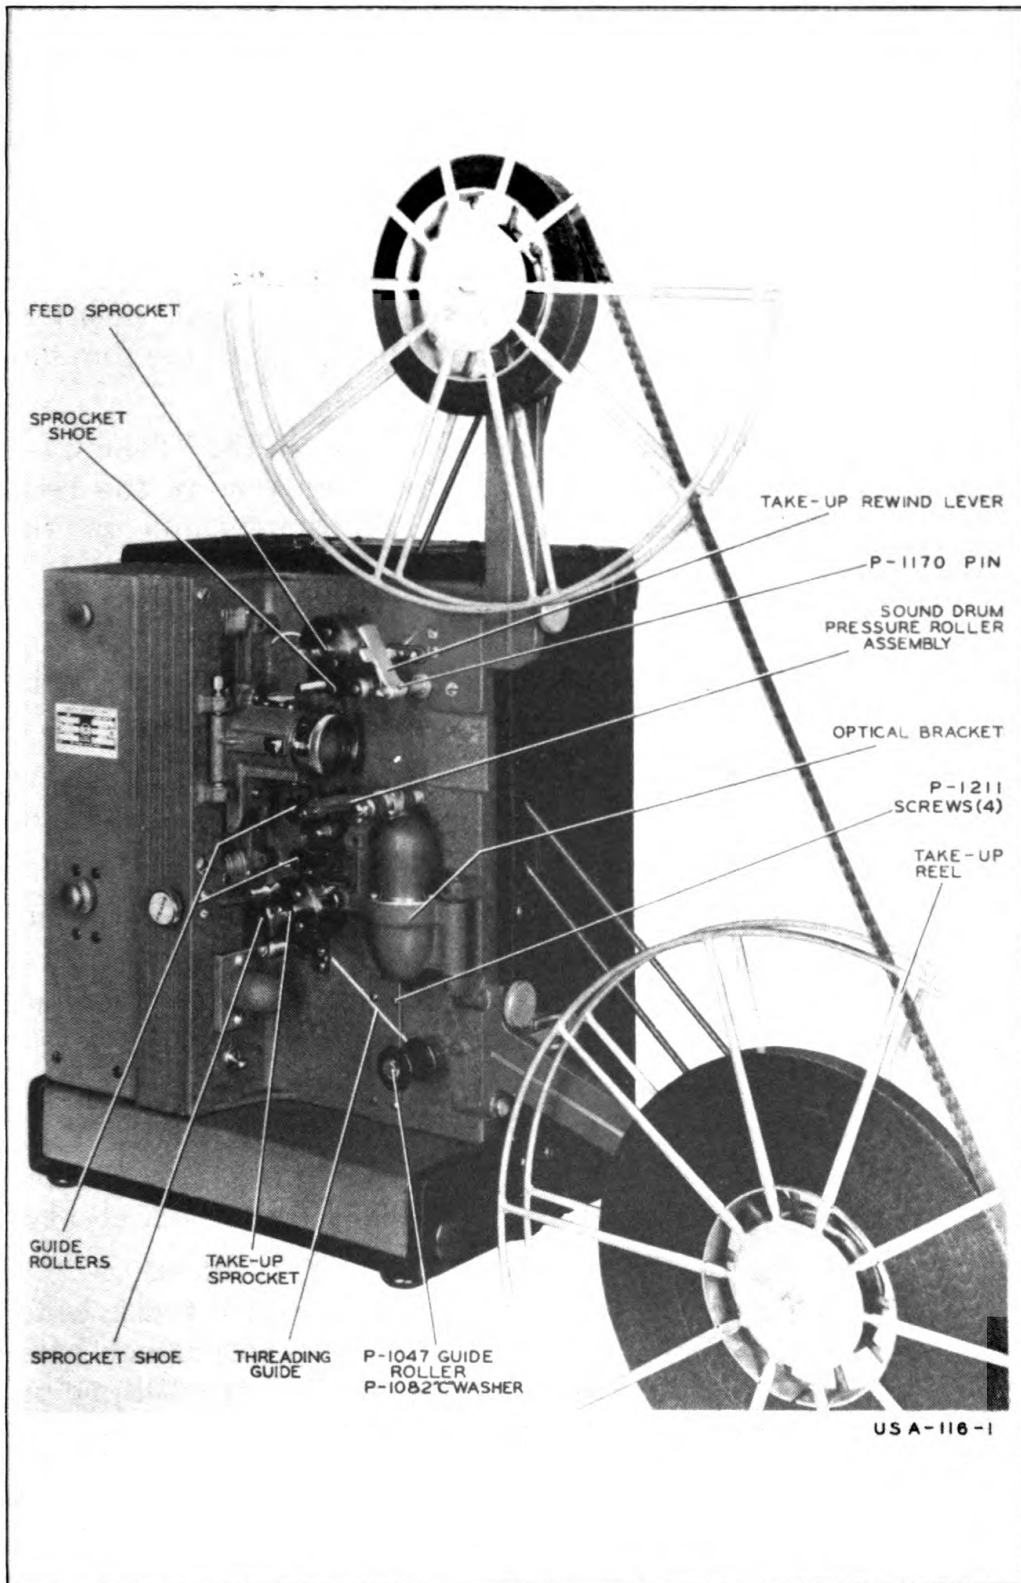

Figure 7—Projector—Showing Film Rewind
wind about three feet from this reel and pass it over the hub of the upper reel and place the end in the slot in the hub. See Figure 7.
(2) Turn the upper reel a few turns counter-clockwise by hand.
(3) Place the "Take-up-Rewind" lever in the "Rewind" position (Figure 7).
(4) Leaving the "Lamp" switch in the "off" position, turn "on" the "Proj." switch, and leave it "on" until the film has been rewound.